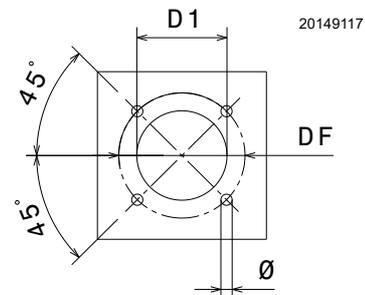

Fig. 15
Pierce the closing plate of the combustion chamber, as in Fig. 15. The position of the threaded holes can be marked using the thermal insulation screen supplied with the burner.
- Fit the entire burner onto the boiler hole prepared previously (Fig. 15 on page 21), and fasten with the screws supplied.